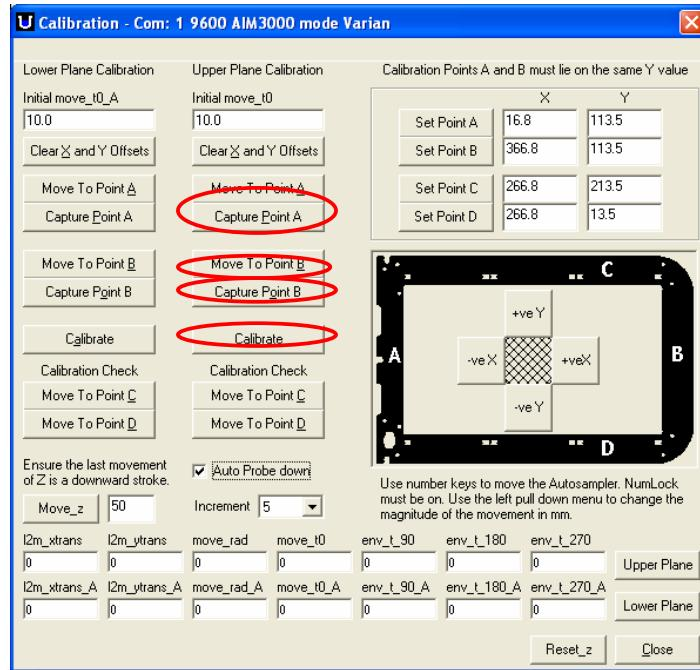

Figure 13: Capturing Point B
4. Once the probe is positioned over the point A dimple, then select the *Capture Point A* button (Figure 13).
6. Move the probe to position B (*Move To Point B*) Figure 16, and follow the same alignment process as mentioned for the position A calibration. Once you are happy with the probe alignment over position B (Figure 16) in the alignment tool, click the *Capture Point B* button (Figure 13). Click the *Calibrate* button (Figure 13) to lock in the new calibration coordinates. There is no need to check Point C and D.